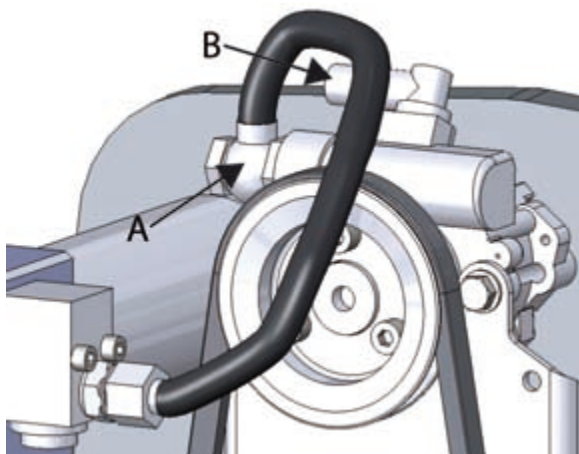

Figure 75. Hoses of the hydraulic pump
1. Remove the hydraulic pump pressure hose (figure 75, point A) and suction hose (figure 75, point B) and drain the oil into a container.
5. Install the pressure hose (figure 75, point A) and return hose (figure 75, point B).